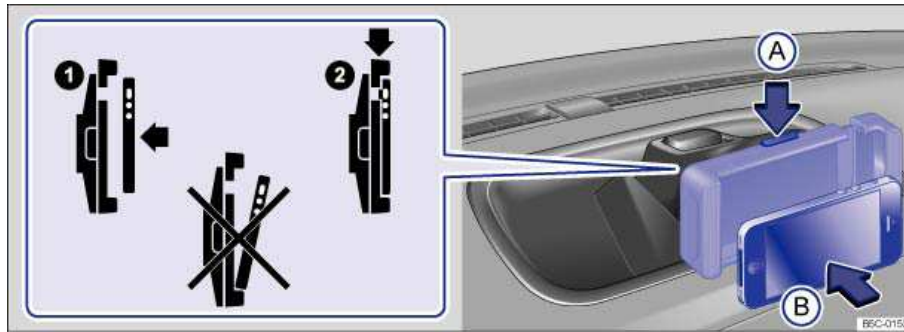

Fig. 149 On the center console: Inserting the iPhone®.
- With the release button pressed ⇒ fig. 149 (arrow (A)), insert the iPhone® straight into the holder (arrow (B)) ⇒ ⚠.
- Press the release button ⇒ fig. 149 (arrow (A)) with the other hand and remove the device from the holder.
- Always insert the iPhone® straight into the portable iPhone® holder → fig. 149. If the iPhone® is inserted at an angle, the electrical contacts on the iPhone® and the portable iPhone® holder could be damaged.